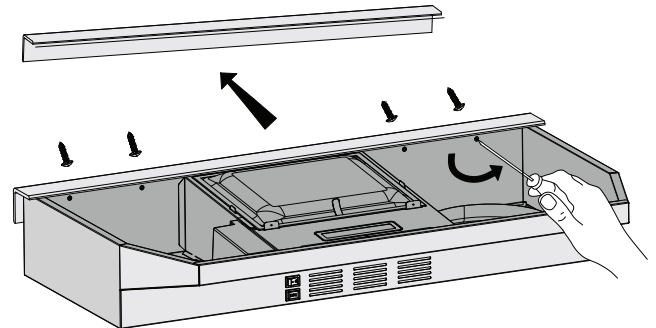

Figure 1
- Unscrew and remove corner bead located underneath the hood (see Figure 1).